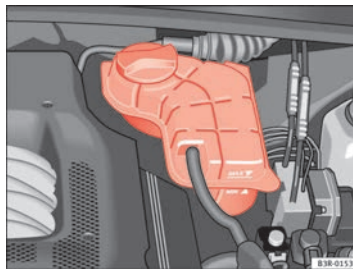

Fig. 181 Engine compartment: Liquid coolant deposit
- Check the coolant level on liquid coolant expansion tank $\Rightarrow$ fig. 181. When the engine is cold, it should be between the “min” and “max” marks. When the engine is hot, it may be slightly above the “max” mark.
- Cover the cap on the expansion tank ⇒ page 232, fig. 181 with a cloth, and **carefully** unscrew the cap anti-clockwise ⇒